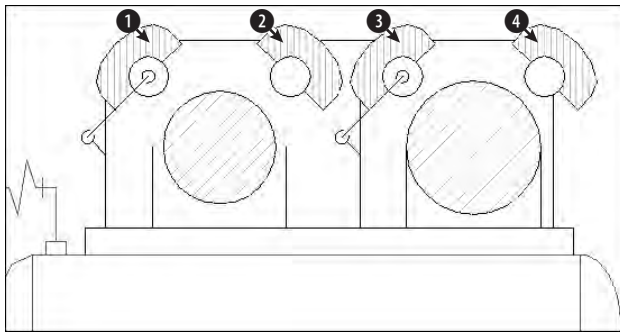

Figure 16-30: The result after editing the two hatches
4. AutoCAD returns you to your drawing. Pick the two large circles in Figure 16-30. Right-click and choose Preview. Press Esc to return to the dialog box. Click OK to create the hatch and end the BHATCH command.
6. Choose Pick Points. In your drawing, pick points ①, ②, ③, and ④ in Figure 16-30. Right-click and choose Preview. Right-click again to create the hatch and end the BHATCH command.
8. Double-click one of the hatches at the top of the model. Notice that AutoCAD selects all of them because they were created with one command. In the Hatch Edit dialog box that opens, change the angle to 90 and the spacing to 0.04. Click OK. Your drawing should look like Figure 16-30.